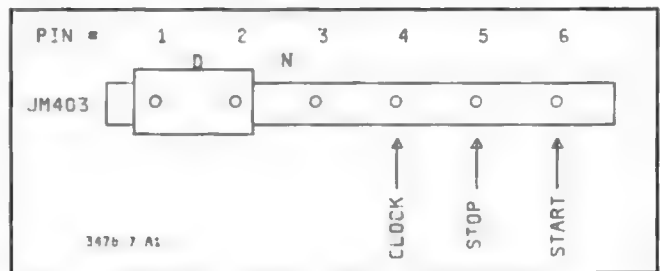

Figure 7-A-1. JM403 SA Connection
- b. Move jumpers JM502, JM503, and JM403 to the "D" position (JM403 pin 1 and 2), as shown in Figure 7-A-1.
- c. Obtain a Signature Analyzer. Set and connect as follows (shown in Figure 7-A-1):